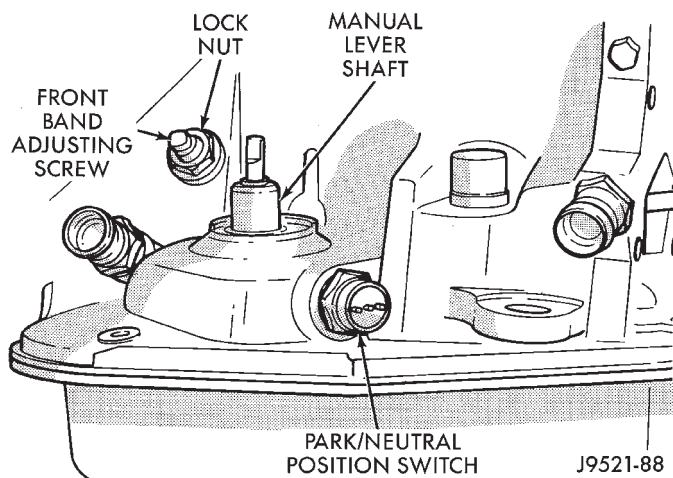

Fig. 363 Front Band Adjustment Screw Location
- (1) Raise vehicle.
- (2) Loosen band adjusting screw locknut (Fig. 363). Then back locknut off 3-5 turns. Be sure adjusting screw turns freely in case. Apply lubricant to screw threads if necessary.
- (3) Tighten band adjusting screw to 8 N·m (72 in. lbs.) torque with Inch Pound Torque Wrench C-3380-A, a 3-in. extension and 5/16 socket.